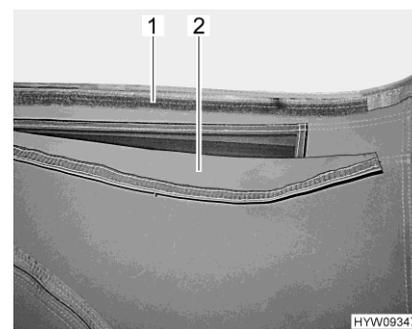

Fig. 32 Ventilation (open)
- Pull the fabric flap (Fig. 32,2) upwards and press down the Velcro strap (Fig. 32,1).